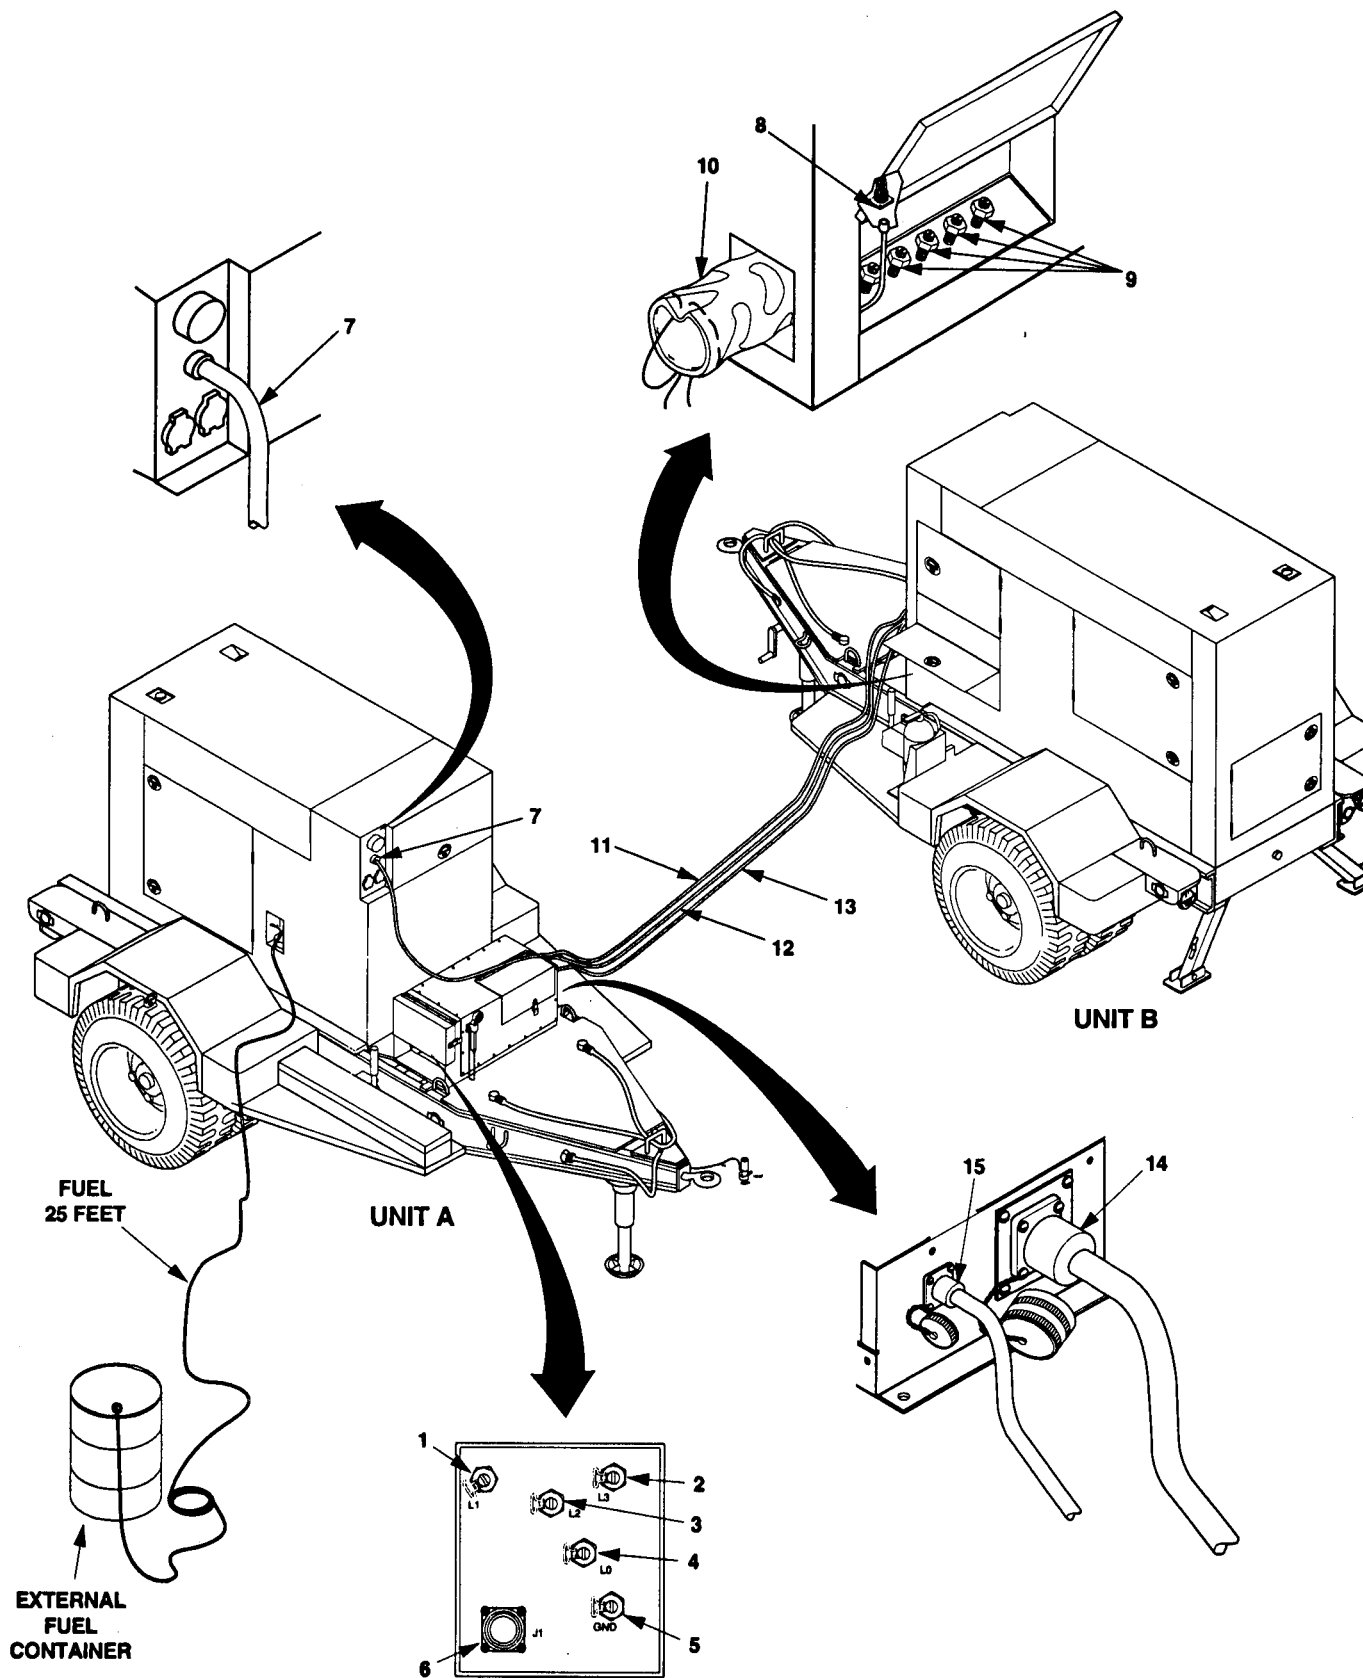

Figure 2-8. Connecting Power Plant.
**2-3.4.2 Power Plant.** Load may be connected to the switch box (figure 2-8) by either of two methods. One method is to connect the load cable to the J1 connector (6, figure 2-8). The other method is to connect load cables to the load terminals (1, 2, 3, 4, and 5, figure 2-8). Connect unit A to unit B as follows: